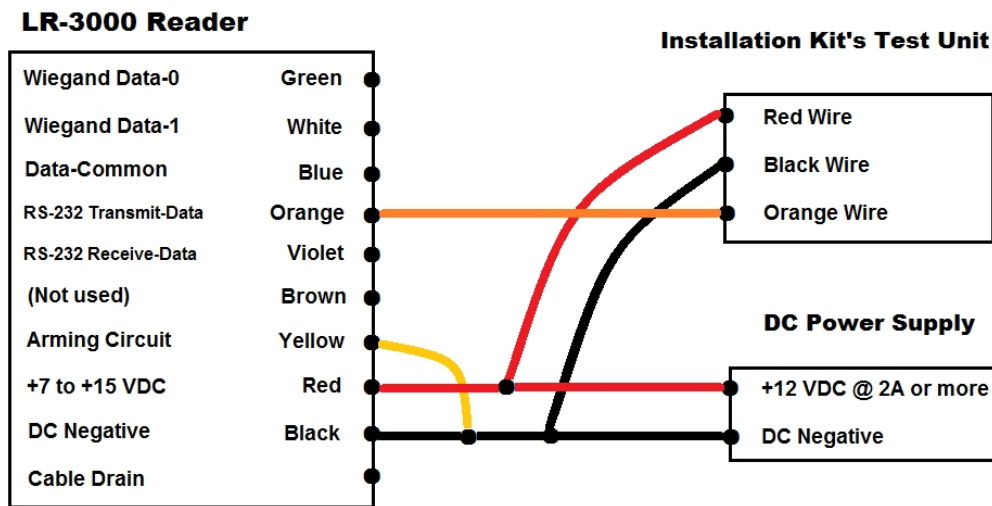

Figure 2 Wiring for quick test
| <ul style="list-style-type: none"> <li>• LR-3000 reader (It does not contain an LED.)</li> <li>• HT-UHF hangtag (26-bit code), or other tag *</li> <li>• Install Kit’s Test Unit, cable with 3 clips *</li> </ul> | <ul style="list-style-type: none"> <li>• PS-12-3.3A power module, cable with 2 clips *</li> <li>• Wiring diagram, Figure 2 (below)</li> </ul> <p>* A component of the LR-TEK Installation Kit</p> |
- Connect the wires as shown in the wiring diagram, Figure 2 (below).
This step should be taken before the credentials are installed in or on the vehicles. From the LR-TEK Installation Kit, use the test unit, and one of the hand-held test tags, and the wiring diagram in Figure 2 on page 7. The reader does not have to be interfaced with the host system (but they *may* be connected together). Use the DC power module from the LR-TEK Installation Kit *only* if the independent DC power supply is not yet connected.